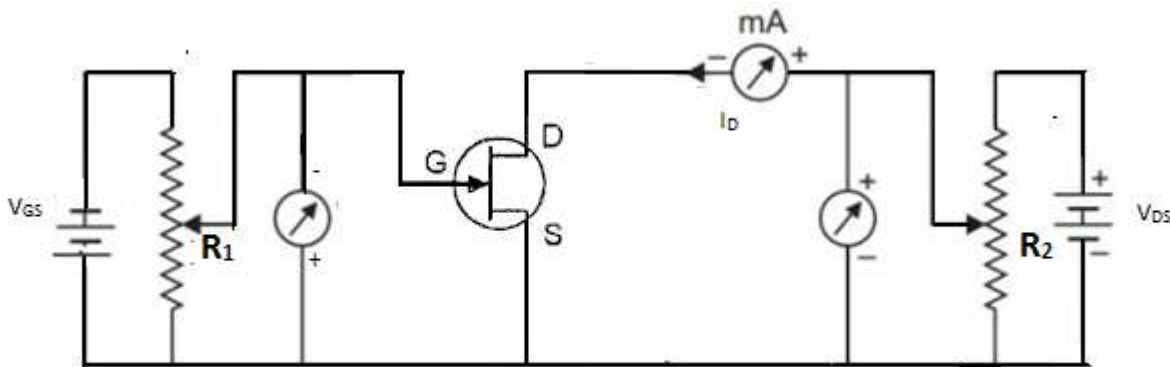

Figure 2
The apparatus in the experiment is a field effect transistor (FET) as shown in figure 2. The drain is kept at positive voltage with respect to source by the battery (0-30V) and gate is kept at negative voltage with the source by the battery (0-10V). For the measurement of drain current milliammeter is used in circuit.
39. Make connection as shown in figure 2.